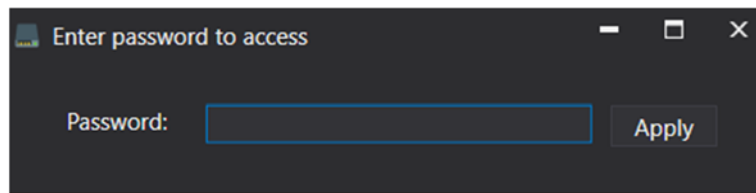

Figure 13 - A window for entering a password to confirm erasing
5.1 On the main screen «SOMExplorer», shown in Figure 5 click the  button, and then the password entry window shown in Figure 13 will be displayed.